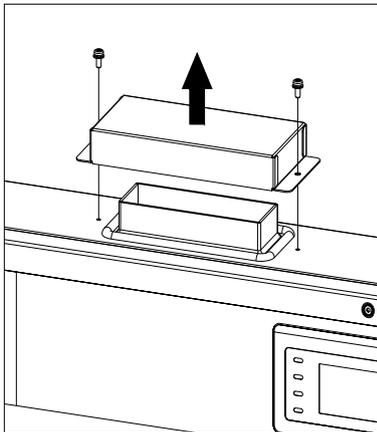
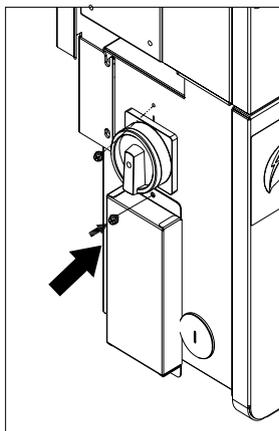

Figure 3-10 Cover board of the wiring box
Figure 3-13 Attach the cover board to the left side of the wiring box
② Remove the cover board at the top of the wiring box (see Figure 3-10)
Save the cover board and screws, and fix the board on the left side of the wiring box after the wiring box is attached to the inverter housing (see step 6, Figure 3-13)
(6) Attach the cover board shown in Figure 3-10 to the left side of the wiring box. (see Figure 3-13)